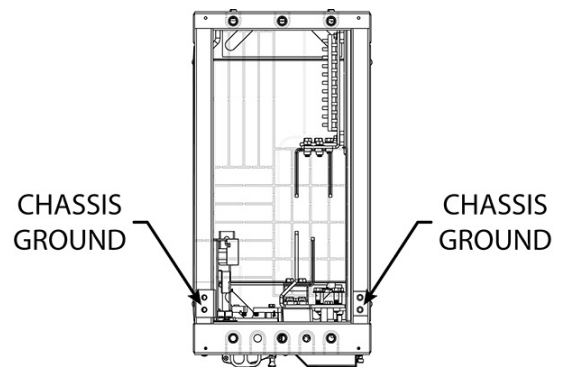

Figure 4. Grounding Locations (Top View)
- Step 1. Select the desired grounding location and break away the associated knock-out points found on the plastic top cover (see Figure 4).